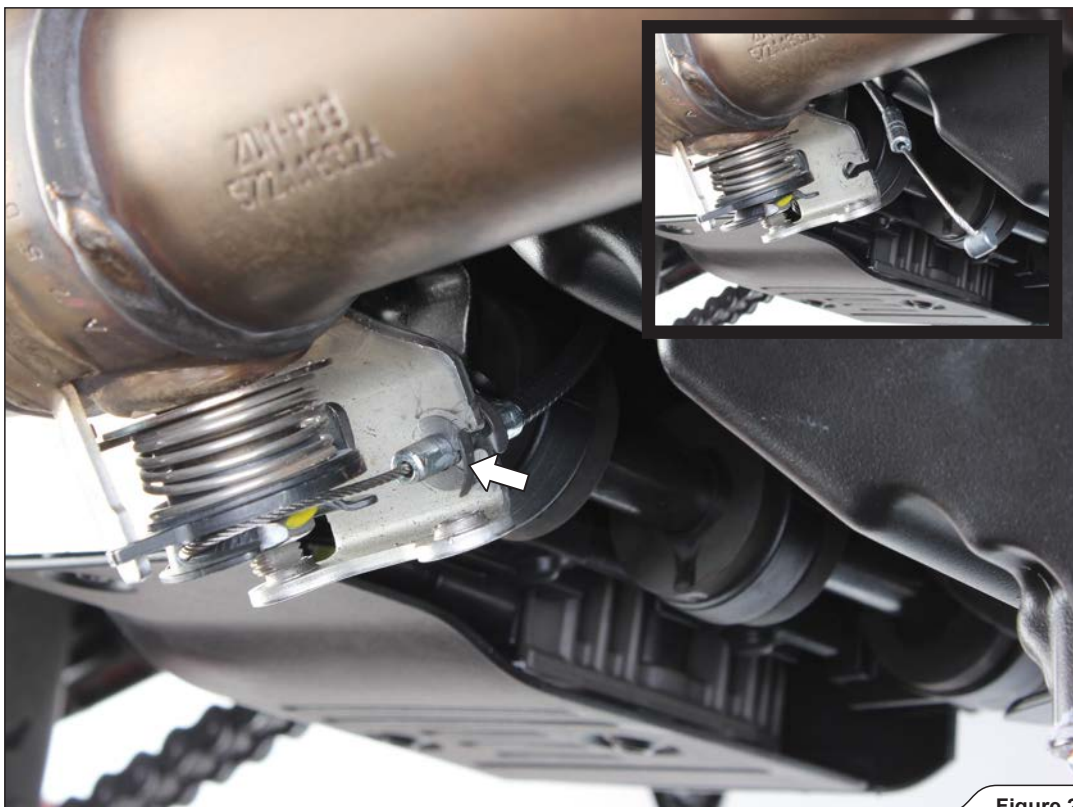

Figure 2
4. Undo the marked circlip and remove the cable off the valve (**Figure 2**).